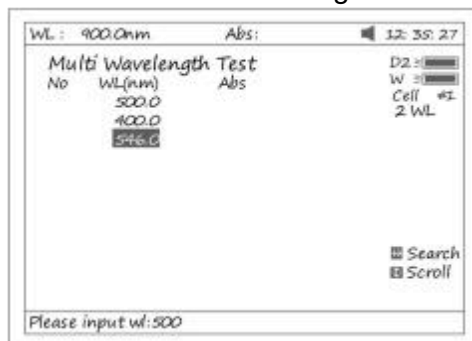

Fig 69
1. Press **【F1】** to setup a group of wavelengths for testing by pressing the numeric keypad followed by **【ENTER】**. (^) or (v) to modify the inputted data Fig. 69. Press **【ESC/STOP】** to finish setup and exit.